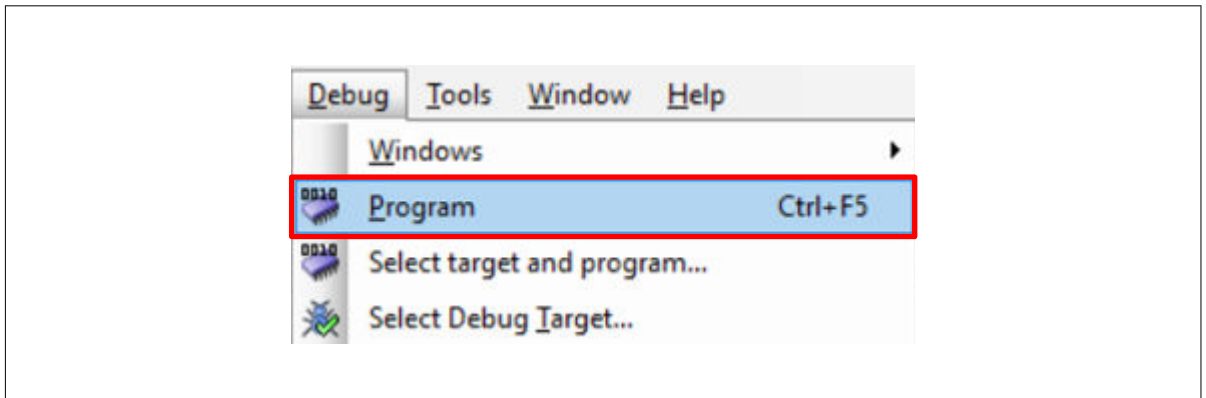

Figure 50 Programming the device
- Choose the menu item **Debug > Program** to program the device with the project, as shown in Figure 50.